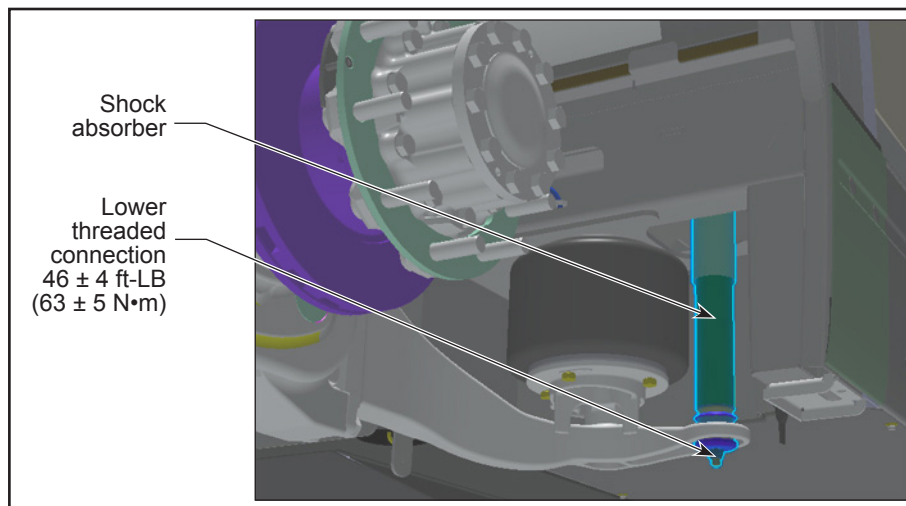

Figure 7 - Shock Absorber
- 2.24. Loosen the lower threaded connection of the two shock absorbers, and push the shock absorber upwards to release. See Figure 7.
- 2.56. Attach both shock absorbers and rubber joint on the spring carrier, and fix using the appropriate retained hex nuts. See Figure 7. Apply a lubricant such as Never-Seez or equivalent.